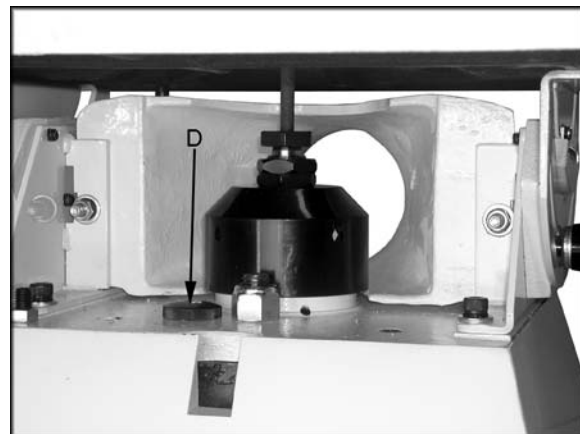

Figure 9
2. Refill oil through the oil cap (D, Figure 9). The oil capacity is two quarts.